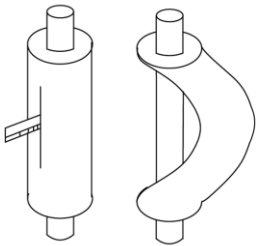

Fig. 14
(2) Do not bend the pipe over 90° .
(3) If pipe is repeatedly bent or stretched, it will get hard and difficult to bend and stretch again. Therefore, do not bend or stretch the bend for over 3 times.
(4) In case that direct bending will open cracks to the pipe, first use sharp cutter to cut the insulating layer, as shown in Fig.14. Do not bend the pipe until it is exposed. When bending is done, wrap the pipe with insulating layer and then secure it with adhesive tape.